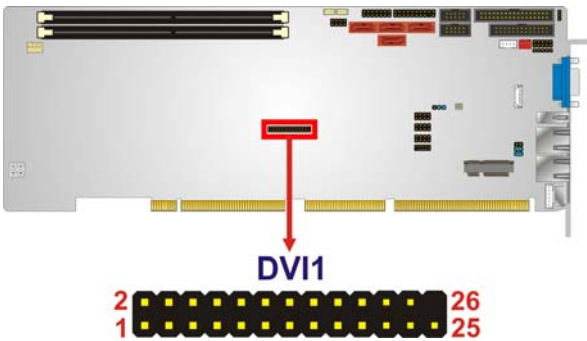

Figure 3-8: DVI-D Connector Location
- CN Location:** See Figure 3-8